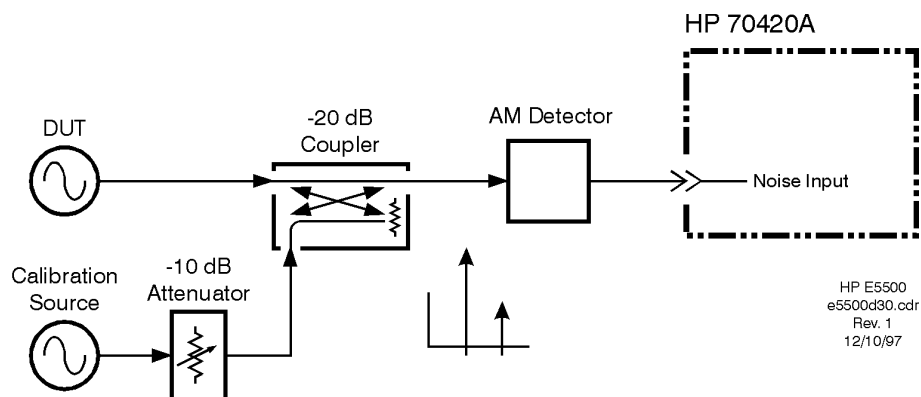

Figure 12-20 Measuring Detector Sensitivity
- 4 Reconnect the AM detector and measure the detector sensitivity. See Figure 12-20.